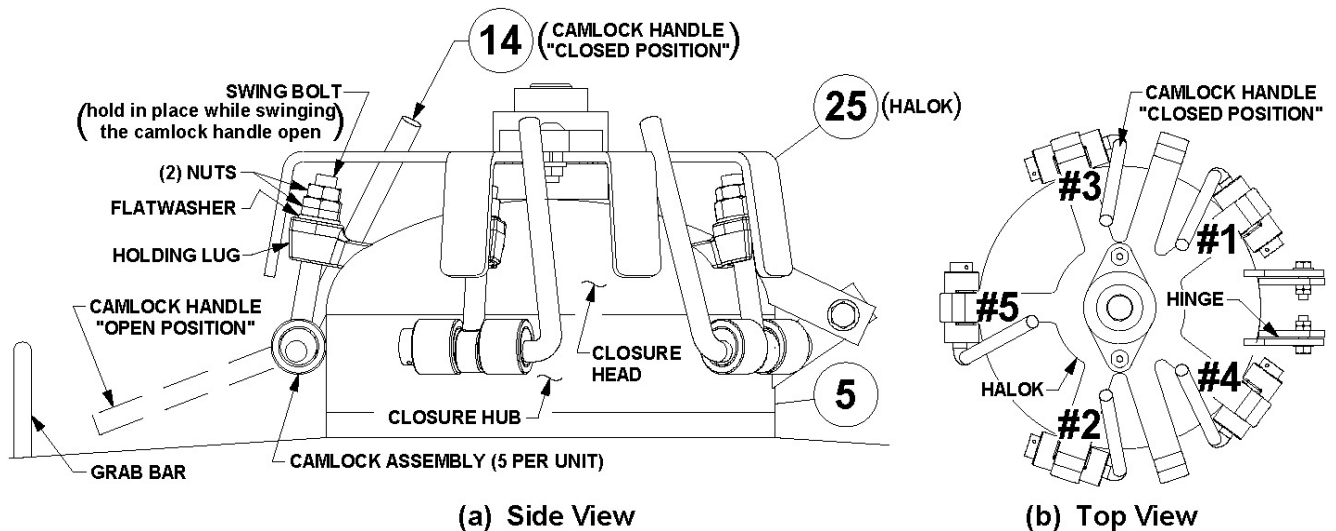

Figure 6.3 – Bulk Abrasive Blaster Closure Assembly
- 6.3.3. In the numbered sequence shown in Figure 6.3(b), swing each of the camlock handles (#14) of the closure (#5) into the “open position.” **DO NOT** swing any swing bolts out of the holding lugs. Hold the swing bolt within the holding lug with one hand, and swing each camlock handle down with the other hand. **Note:** The Halok Assembly (#25) prevents the swing bolts from swinging out of the holding lugs until all camlock handles are in “open” position. See Figure 6.3.